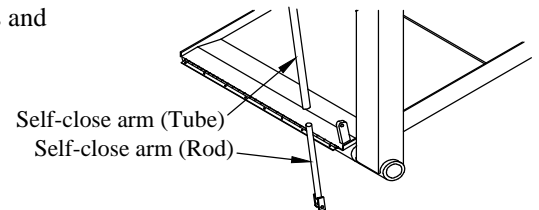

Figure 20: Self-close arm parts.
8. **Remove** the rod from the tube (Figure 20).